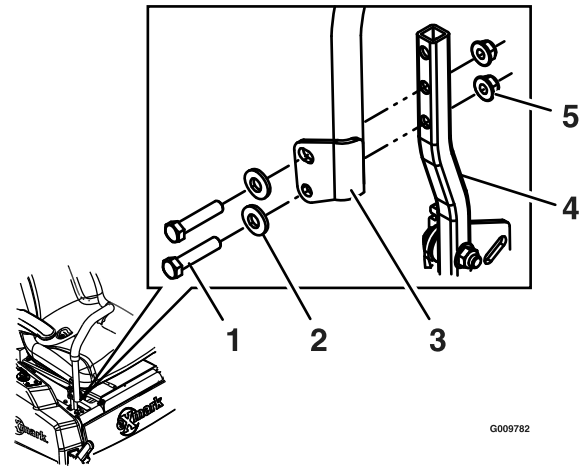

Figure 14
1. Remove the two bolts holding the control lever to the control arm shaft (Figure 14).
2. Loosen the lower bolt just enough to pivot the control lever fore or aft (Figure 14). Tighten both bolts to secure the control in the new position.